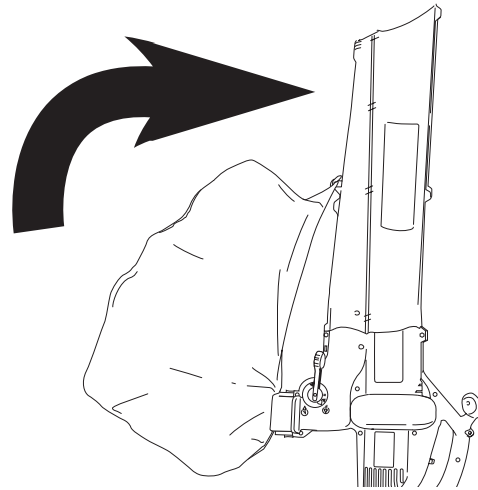

Fig. 19
1. Turn the unit so that the blower/vacuum tube openings point straight up (Fig. 19).
1. Turn the unit so that the blower/vacuum tube openings are straight up (Fig. 19).